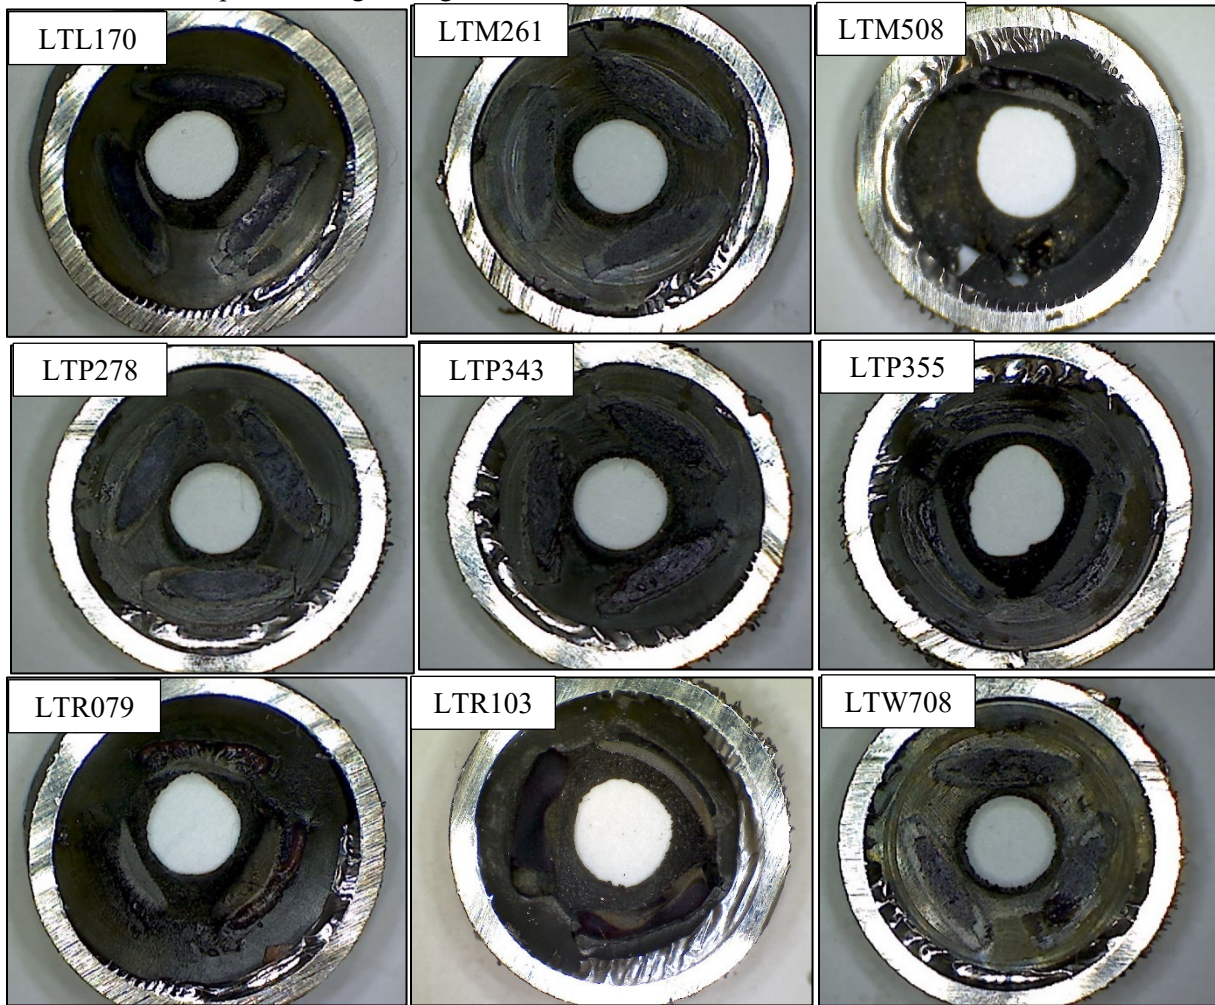

Figure 9: Competitor Long Life Igniter Pins
After evaluating the ninety-six (96) Competitor Long Life igniters returned, fifty-two (52) of the igniters appear to have all three ground pins remaining. However, the remaining forty-four (44) igniters appear to have portions of ground pins or entire ground pins missing with twelve (12) of these units appearing to have all their ground electrode material missing. The pin numbers for each individual igniter are included in **Table 2** above. Pictures of the ground pins are shown below in **Figure 9**.